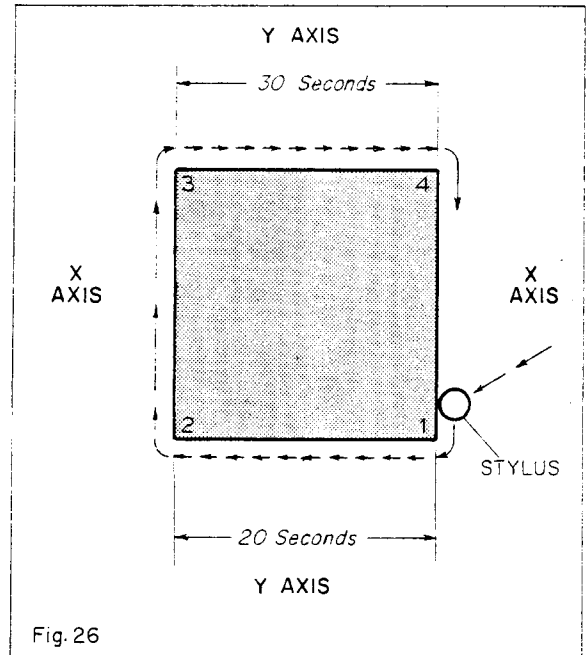

Fig. 26
f. After the necessary feed rate is attained, it will be necessary to balance all four directions of the feed rate in the automatic mode. To accomplish this, a square template is needed, approximately 6 by 6 inches. The setup for this adjustment is shown in Fig. 26.
b. Compare the time element against both sides; if one side is slower or faster to a given speed, match it to the side closest to the desired speed by adjusting as described previously in this section. For example, if one side takes 30 seconds and the opposing side takes 20 seconds (Fig. 26), then you